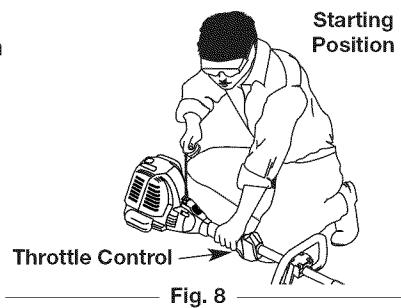

Fig. 8
WARNING: Avoid accidental starting. Make sure you are in the starting position when pulling the starter rope (Fig. 8). To avoid serious injury, the operator and unit must be in a stable position while starting.
- 4. With the unit in the starting position, **do not squeeze the throttle control** (Fig. 8). Pull the starter rope until unit starts.
- 4. With the unit in the starting position (Fig. 8). Place the electric starter into the back of the unit. Refer to Operation section of the Electric Starter operator's manual.
- 5. **Do Not squeeze the throttle control**, press and hold the electric starter ON (I) button for 2 second intervals until unit starts.